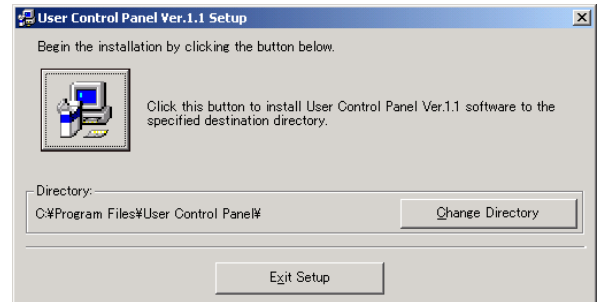

Fig. 2
- ② The User Control Panel installation screen appears.
- ③ When the screen [Welcome to the User Control Panel installation program] appears, click OK.
- ④ When the screen [Begin the installation by clicking the button below] appears, click the Setup icon on the top left of the screen. (Fig. 2)